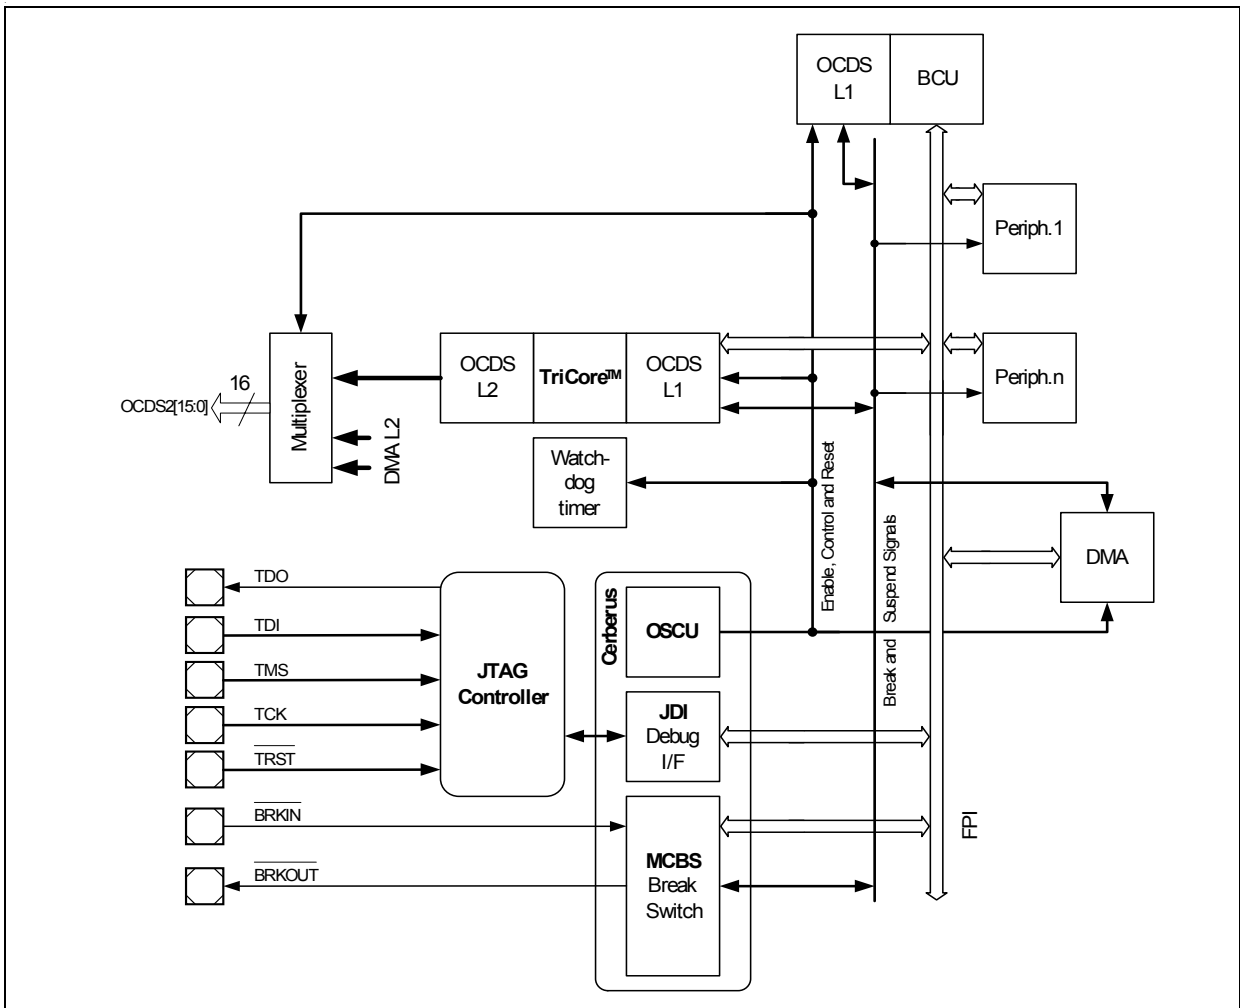

Figure 3-13 OCDS Support Basic Block Diagram
**Figure 3-13** shows a basic block diagram of the building blocks.